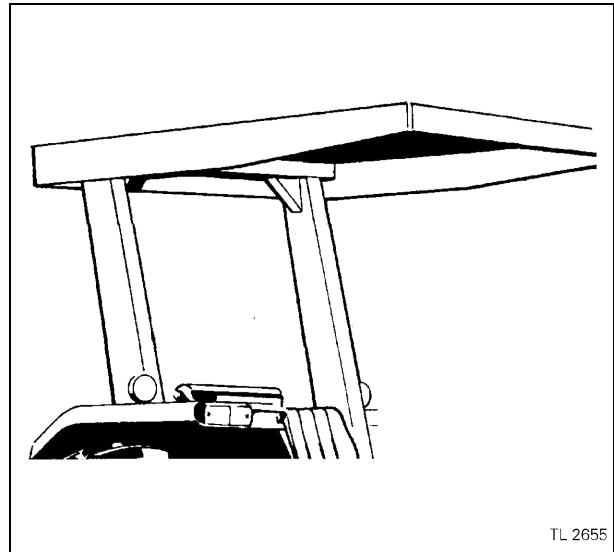

Fig. 8
- ROPS, FOPS (Falling Object Protective Structure), protective enclosure or protective screens (Fig. 8). Remember FOPS are protection from light falling objects and are not intended as protection from large falling objects such as large round bales or fence rails.